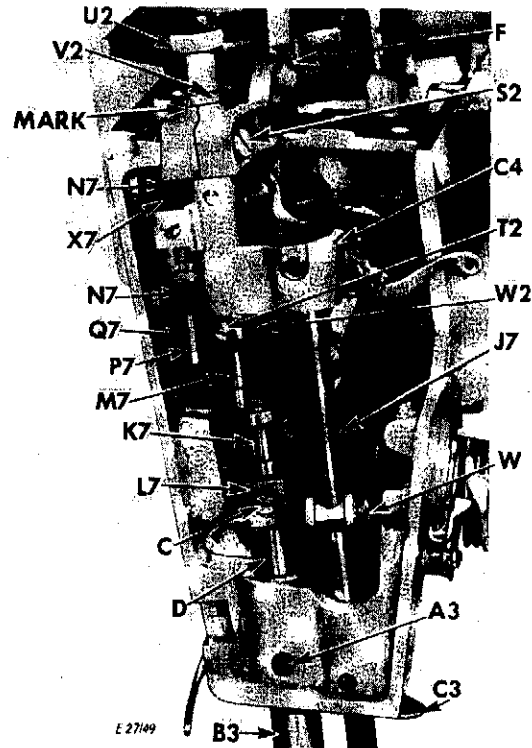

Fig. 319. Needle Bar Assembly
(See Fig. 319)
1. Insert needle bar down through bushings, as shown in Fig. 319.
4. Replace pressure regulating thumb screw **U2**, Fig. 319.
6. Align presser foot with slots for feed dog in throat plate, as instructed on page 128, and securely tighten set screw **C**, Fig. 319.
4. Mark edge of eccentric hinge pin **V2** as shown in **Figs. 319** and **320** so that its position in relation to casting may be readily regained.